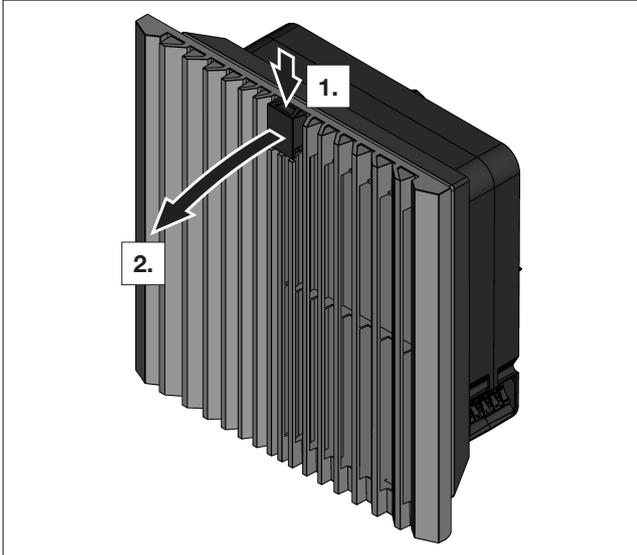

Fig. 16: Unlocking the louvred grille
- To unlock the louvred grille, press the function logo from above (see fig. 16).